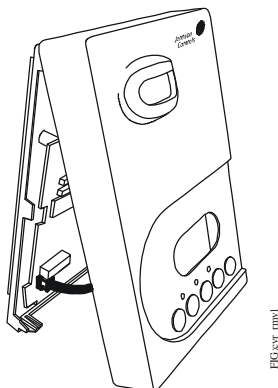

Figure 1: Removing the Thermostat Controller Cover (TEC22x2-4+PIR Model Shown)
2. Pull the bottom edge of the thermostat controller cover and open the thermostat controller as illustrated in Figure 1.